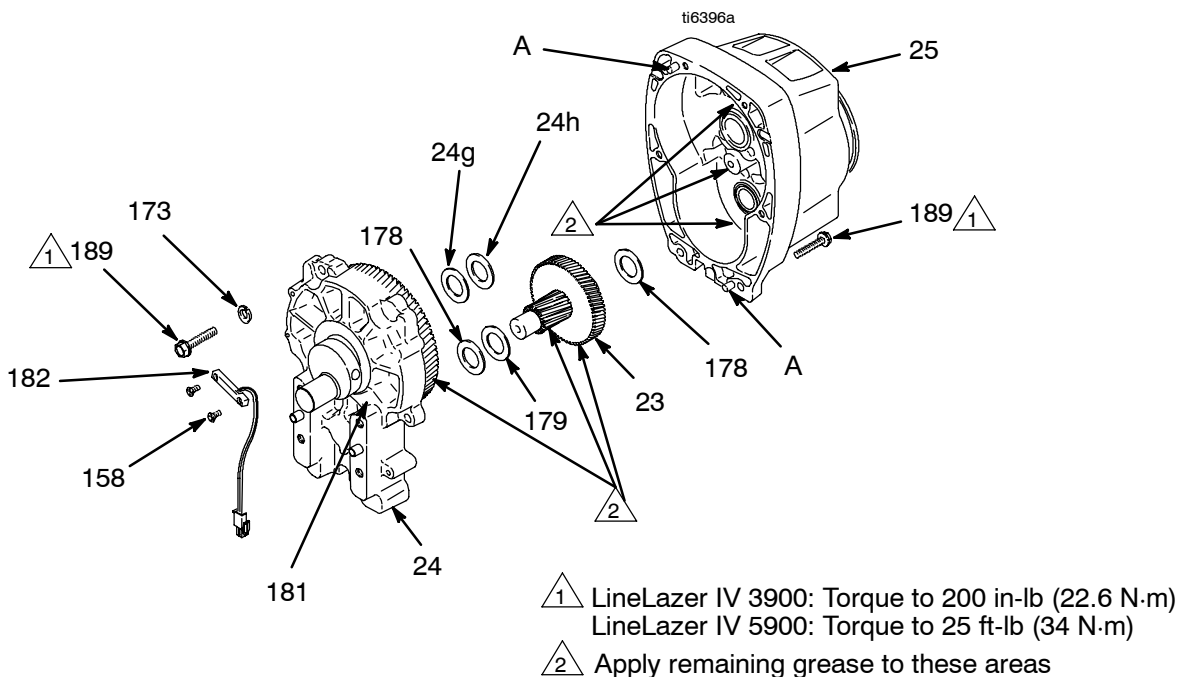

Fig. 3
2. Fig. 3. Remove bearing housing. Do **Bearing Housing and Connecting Rod** procedure on page 11.
3. Remove two screws (158) and reed switch (182).
4. Remove six screws (189) from pinion housing (25).
5. Lightly tap around drive housing (24) to loosen drive housing. Pull drive housing straight off pinion housing. Be prepared to support gear cluster (23), which may also come out.
1. Liberally apply bearing grease (supplied with replacement gear cluster) to gear cluster (23) and to areas called out by note 2.
2. Place bronze colored washer (24g) on shaft protruding from large shaft of drive housing (24). Place silver colored washer (24h) on pinion housing. Clean mating surfaces of pinion and drive housings. Align gears and push new drive housing straight onto pinion housing and locating pins (A).
3. Install six screws (189). Torque evenly to note 1 value in Fig. 3.
4. Install reed switch (182) with two screws (158).